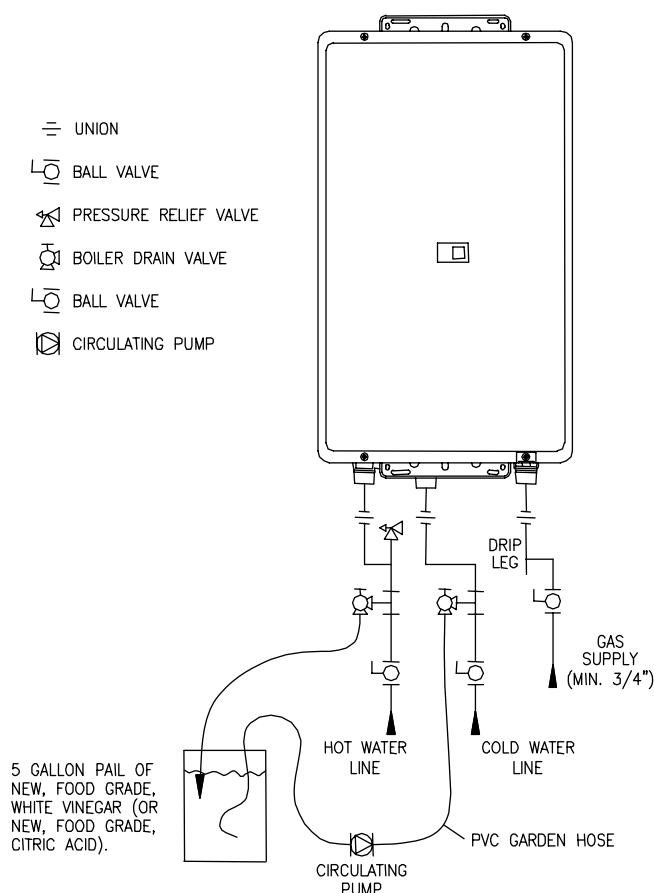

Figure 52
Lime accumulation reduces the efficiency and longevity of the heat exchanger coil and will cause the water heater to malfunction. The lime scale may need to be periodically removed from the heat exchanger (indicated by the "LC" code on the remote display). The usage of water softening equipment greatly reduces the hardness of the water. However, this equipment does not always remove all of the hardness (lime). The heat exchanger may occasionally need to be flushed to clear out the lime deposits. Use the following procedure and diagram (fig. 52) to flush the heat exchanger and remove the lime scale.
3. Connect PVC hoses (may use garden hose to the drain valve outlet fittings). Connect a circulator pump to the hose connected to the cold water inlet. See figure 52 for hose and circulator connections.